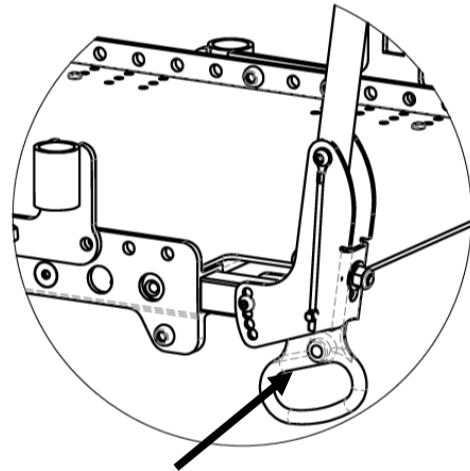

Figure 16.26: Fold-down backrest
2. Disengage the quick release pin by pulling on the attachment cord until it is free of the backrest bracket. (see Figure 16.26)